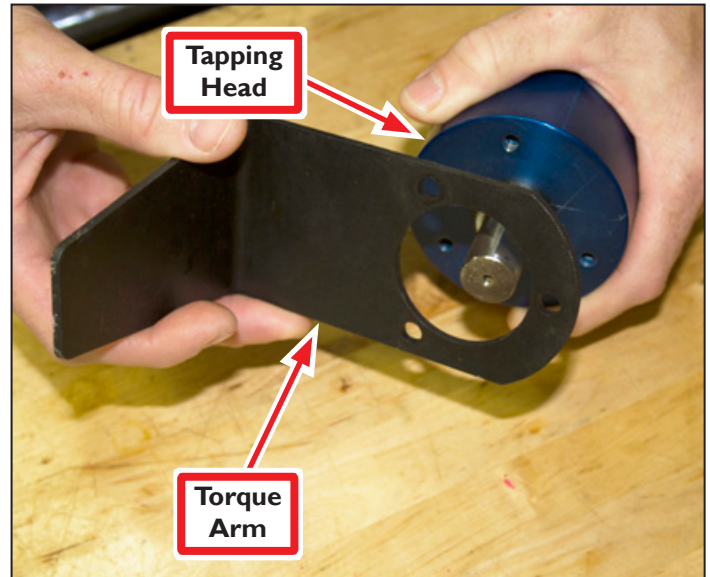

Figure 3
1. Identify Torque Arm and Tapping Head (both included) as shown in **Figure 3**.
2. Using an M4 hex wrench, remove three screws on top of the Tapping Head (see **Figure 3**); set aside.
3. Place Torque Arm over 3/4" arbor on Tapping Head as shown in **Figure 3**; fasten securely with three screws removed in step 2.